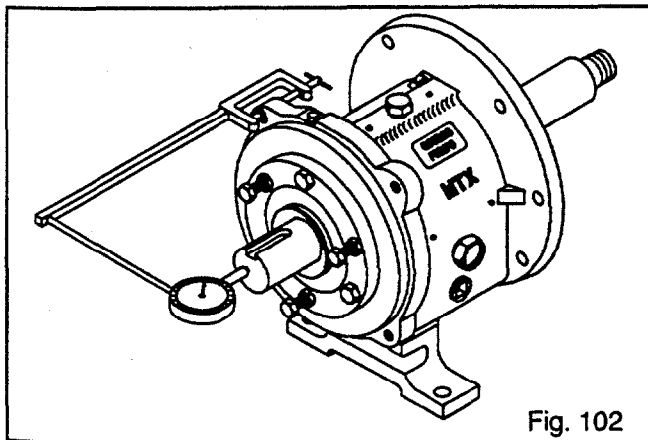

Fig. 102
2. Check shaft end play. Move shaft forward then backward by hand, noting indicator movement. If total indicator reading is greater than Table 10, page 51, values, disassemble and determine cause (Fig. 102).